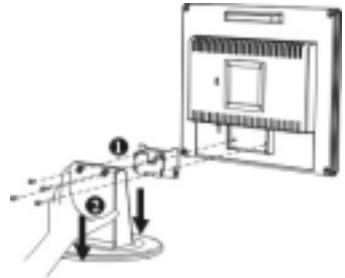

Figure 1-3
1. Unscrew screws of the hinge bracket ①
2. Remove the stand from LCD monitor ② (See fig. 1-3)
Before installing to mounting device, please refer to Fig.1-3.